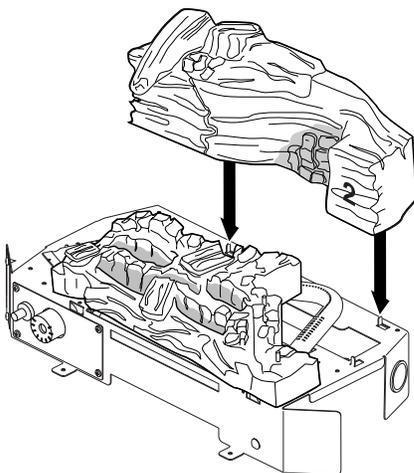

Figure 29 - Installing Log #2 (Model LGX3924NT Shown)
2. Place log #2 behind the back burner and onto the two back tabs as shown in Figure 29.